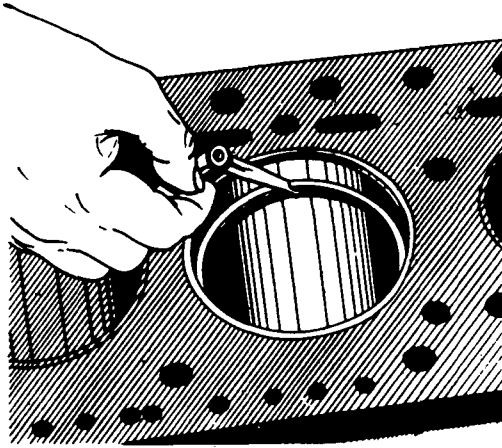

Fig. 3--Measuring Piston Ring Gap
**PISTON RINGS** - When installing new piston rings each ring must be tried in the cylinder bore for fit before assembling to the piston. These should have gap of .015 inch (.381 MM) to .020 inch (.508 MM), see Illustration Fig. 3. If necessary to increase the gap by filing the ends, be sure the ends are parallel. The use of a ring filing block is recommended if this tool is available. See Illustration Fig. 4 for method of hand filing.